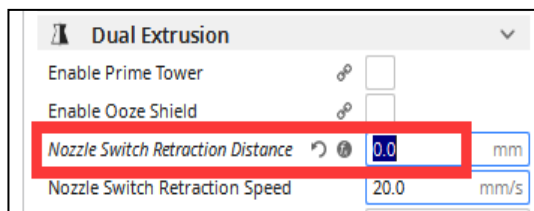

Figure 7
- ***Incorrect slicing settings (Figure 7)***